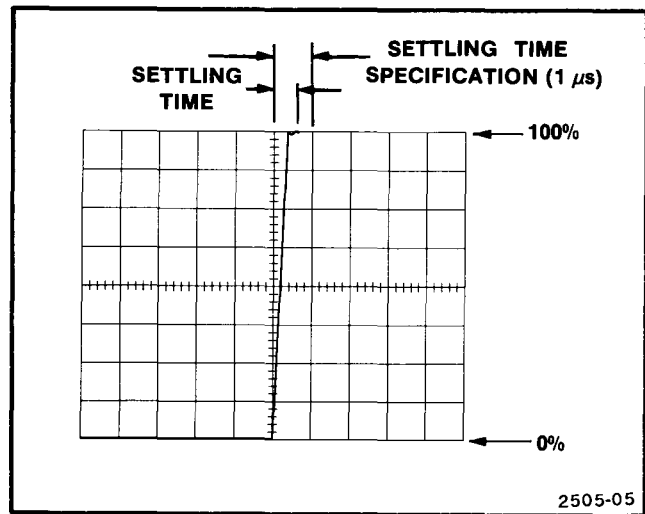

Fig. 4-2. Typical crt display for vertical settling time measurement (settling time includes corner distortion).
e. CHECK—that the time for the leading edge of the square wave to travel from the zero percent level to the 100 percent level (within a trace width, 0.025-inch) is 1 microsecond (1 division) or less. See Fig. 4-2.